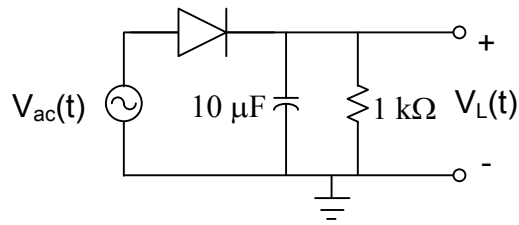

Fig 5. Unregulated DC Power Supply
*DC Power Supply:* In class experiment you observed the rectification property diodes. Fig. 5 shows how the half wave rectifier circuit may be modified by the addition of a single-capacitor filter. Analysis of the circuit indicates that when the diode is conducting, the capacitor will charge up to approximately the source peak voltage. When the diode shuts off, current from the now discharging capacitor will continue to supply the load so that the load voltage will be maintained somewhat until the next charging cycle.
A good power supply should have a low percent regulation, indicating that the voltage seen by the load is fairly independent of the current drawn by that load. For the circuit in Fig. 5, the full load situation corresponds to the current drawn when the load resistance is 1 kΩ. The no load condition is an open circuit ( $I_{RL} = 0$ ) for  $R_L = \infty$ .